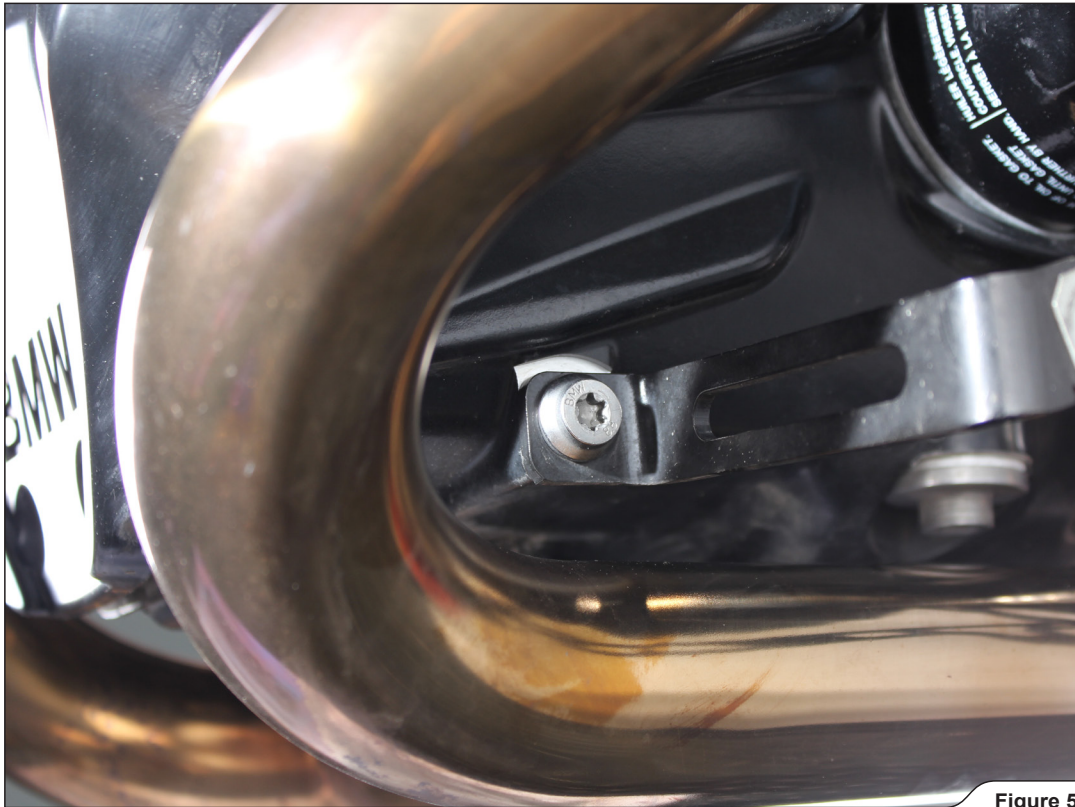

Figure 5
6. Unscrew marked bolt and carefully move only left cowling bracket (**Figure 5**).